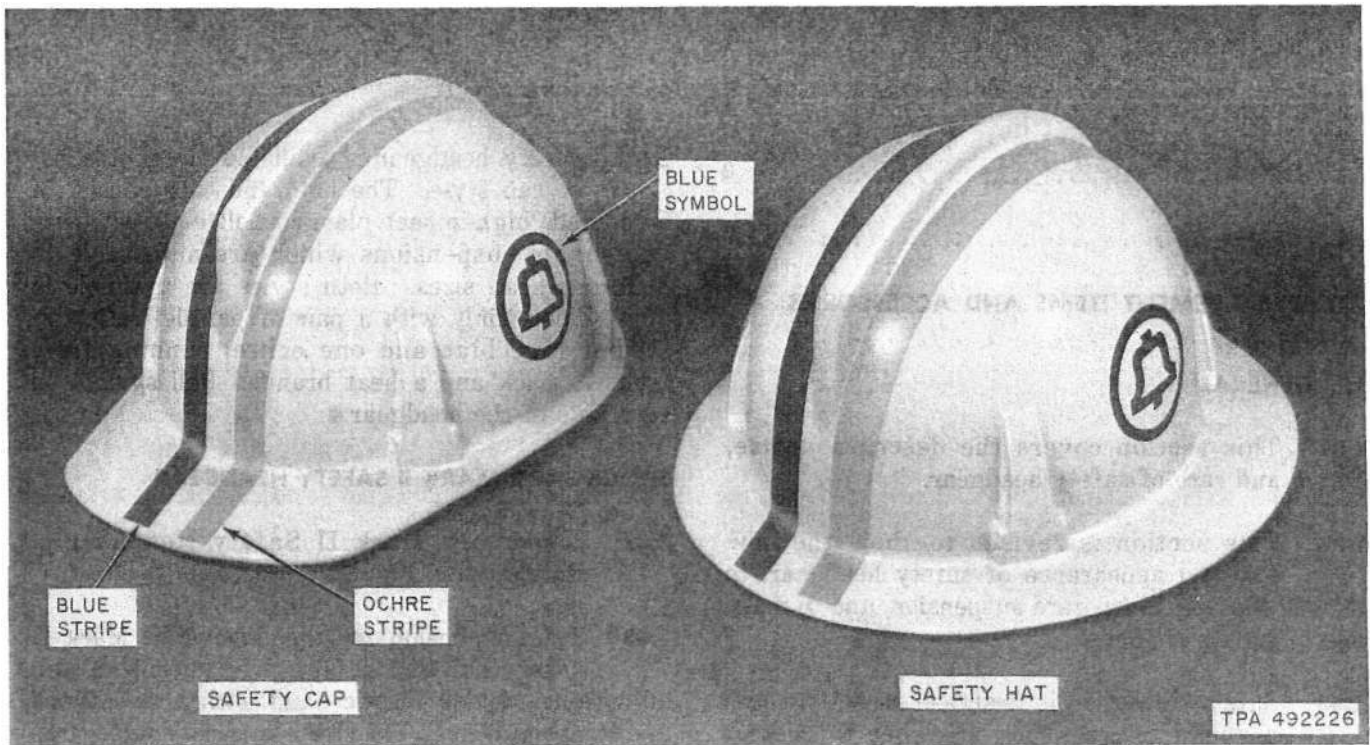

Fig. 1—Shockgard Mark II Safety Headgear
2.02 Shockgard Mark II Safety Headgear is illustrated in Fig. 1.